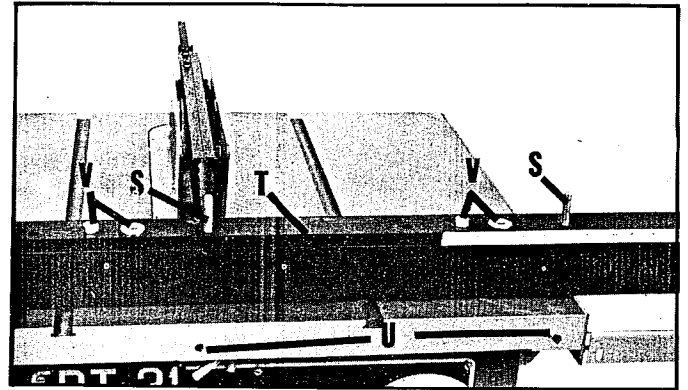

Fig. 30
13. Assemble the guide rail (T) Fig. 30, to the saw table by inserting the two studs (S) into the two holes (U) on front of the saw table and fasten guide rail in place using the two flat washers and hex nuts (V).